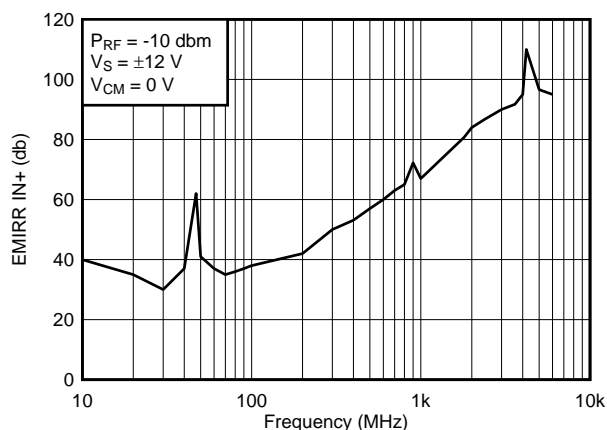

Figure 38. OPA2140 EMIRR
- EMIRR is easier to measure on noninverting pins than on other pins because the noninverting input terminal can be isolated on a PCB. This isolation allows the RF signal to be applied directly to the noninverting input terminal with no complex interactions from other components or connecting PCB traces. Figure 38